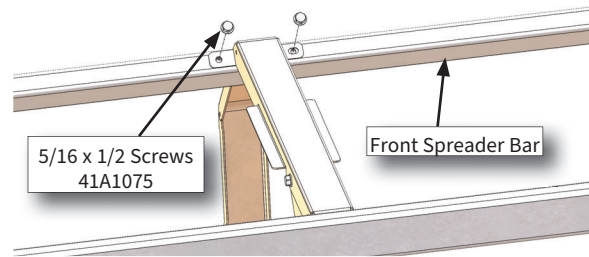

Figure 33: Position of Top Bar Stiffener
6. Attach the top spreader bar stiffener 13B2910NN10 to the front upper spreader bar using (2) 41A1075 screws (Figure 33).